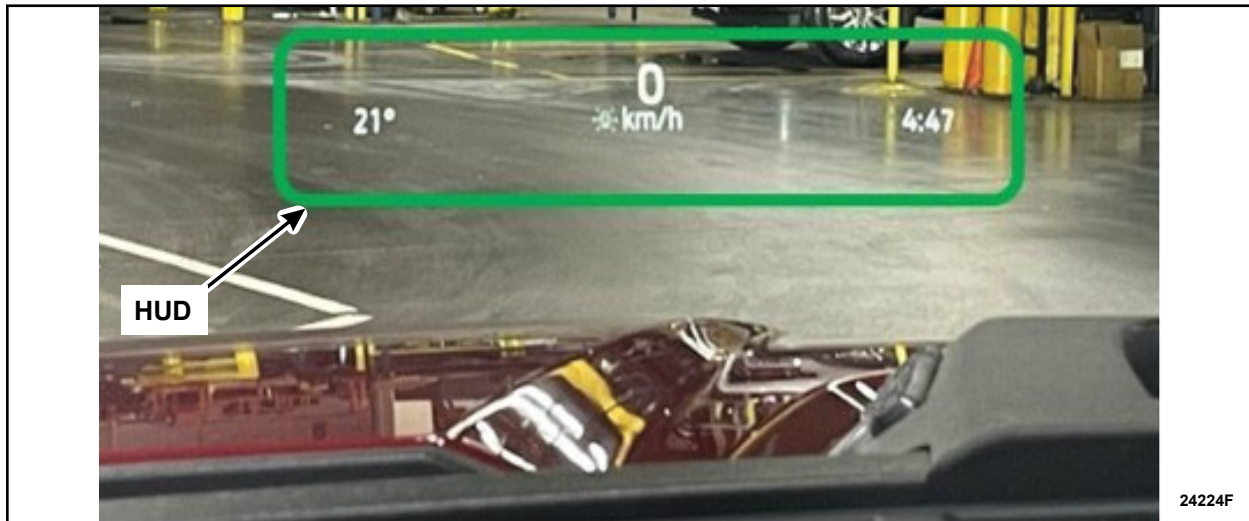

FIGURE 6
12. If equipped, verify the function of the Heads Up Display (HUD). See Figure 6.